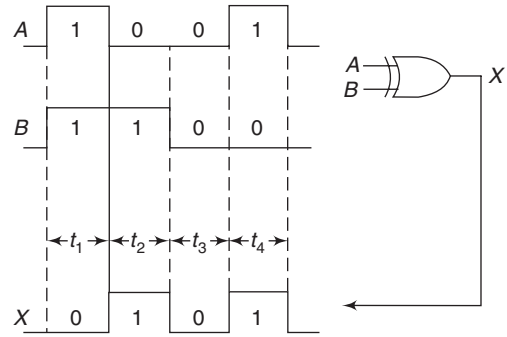

Fig. 4.79 Pulsed XOR Gate Operation.
4.66 Find the output X with the inputs A and B for the XOR gate in Fig. 4.79.
during these two times. Since, both inputs are at the same level, either both HIGH or both LOW, during time intervals t_1 and t_3 , the output is LOW during those times. This is illustrated in Fig. 4.79.